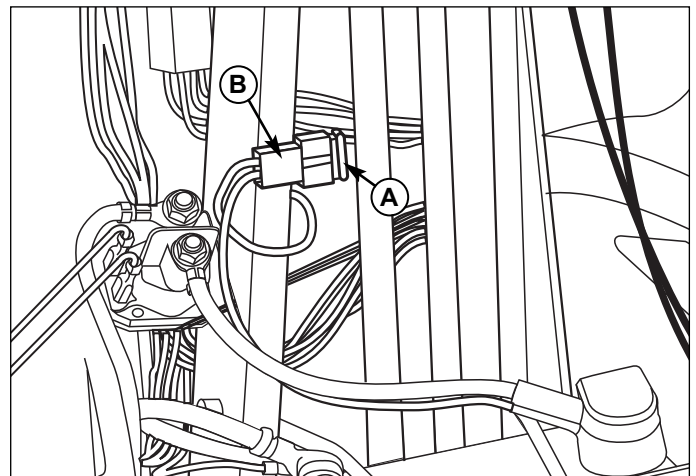
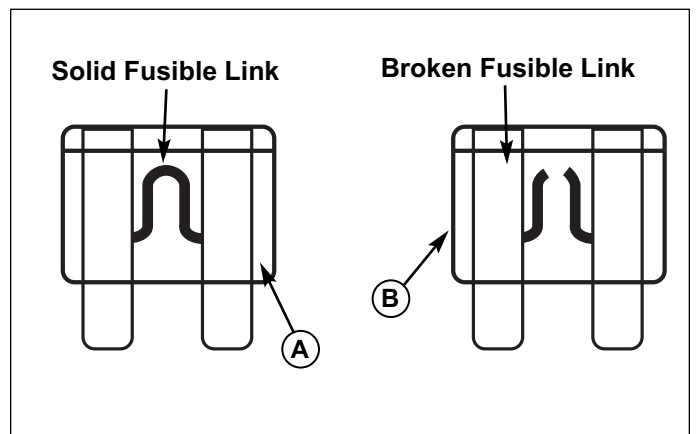

Figure 37. Fuse
Figure 38. Blade Type Fuse
1. Open the hood and locate the fuse holder (B, Figure 37) and fuse (A) attached to the steering tower.
2. Hold the fuse holder (B) and pull out the fuse (A).
3. Inspect the fuse for a broken fusible link (see Figure 38). Replace fuse if connection is broken. If you are not sure if the fusible link is broken, replace fuse.
4. Hold the fuse holder (B, Figure 37) and insert new fuse (A) until it is seated properly.